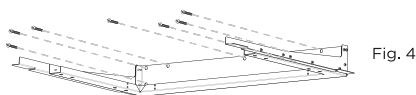

Fig. 4
7. Install the horizontal bracket on the wall, using 7 x 10 x 50 mm anchors and fix it with 7 x 5.4 x 75 mm screws and 7 x 5.3 x 20 mm washers. (Fig. 4)